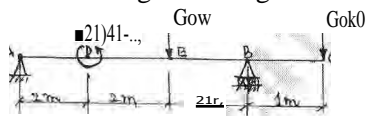

Fig. Q5 (b)
- b. A overhanging beam with roller and hinged supports is as shown in Fig. Q5 (b). Draw bending moment and shear force diagrams for given loadings. (10 Marks)